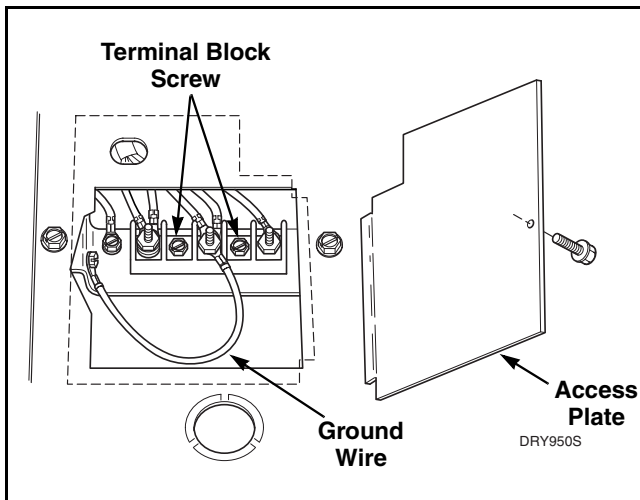

Figure 10
a. Terminal Block – Electric Models (Refer to *Figure 10*)
- (1) Remove access plate on rear of cabinet.
- (2) Remove all wires from terminal block.